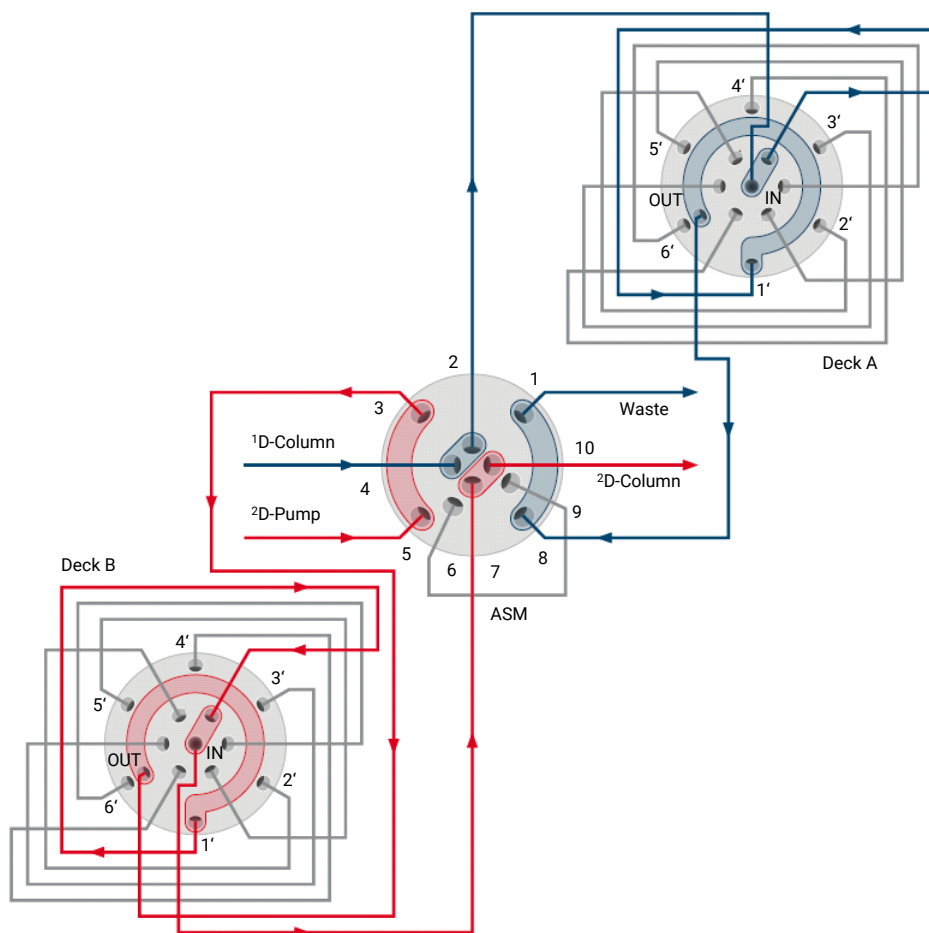

Figure 32: Schematic representation of the ASM 2D-LC Valve (G4243A) in countercurrent flow.
- Countercurrent for the ASM 2D-LC Valve (G4243A) or Standard 2D-LC Valve (G4236A) with a Multiple Heart-Cutting Configuration, see Figure 32 on page 66.
- ⇒ In the instruction table, the connections to valve port are mentioned in brackets, for example ASM Valve (2) = ASM Valve, Port 2.